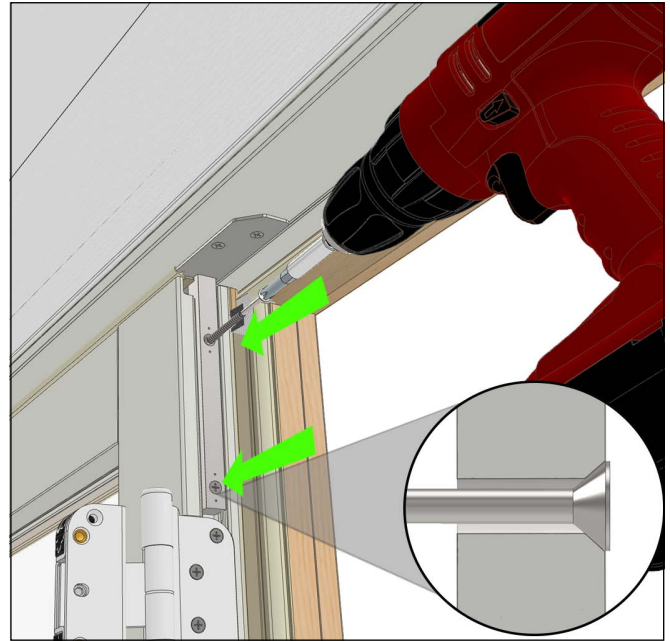

Figure 25
6. Install the 2-1/2" stainless flat head screw into the hole left by removing the panel screw. Drive until it sits flat with the lock bar face. Pre-drill and then fasten another 2-1/2" stainless screw into the other hole until it sits flat with the lock bar face. See Figure 25.